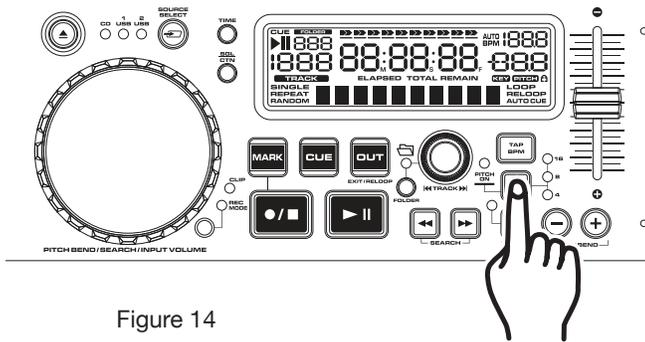

Figure 14
You may choose a pitch operating range at any time. To change the operating range be sure the pitch function is turned on, see figure 14. The pitch percentage can be changed between +/-4%, +/-8%, +/-16%, and 100%. 4% will allow the least amount of pitch manipulation and 100% will allow the most amount of pitch manipulation. To adjust the different values, press the *PITCH ON/OFF BUTTON* (11) and Tap on the *% BUTTON* (11) until your desired value is reached. The L.E.D. of the *% BUTTON* (11); glowing red for 4%, glowing yellow for 8%, or glowing amber for 16%, and all LEDs glowing for 100%.